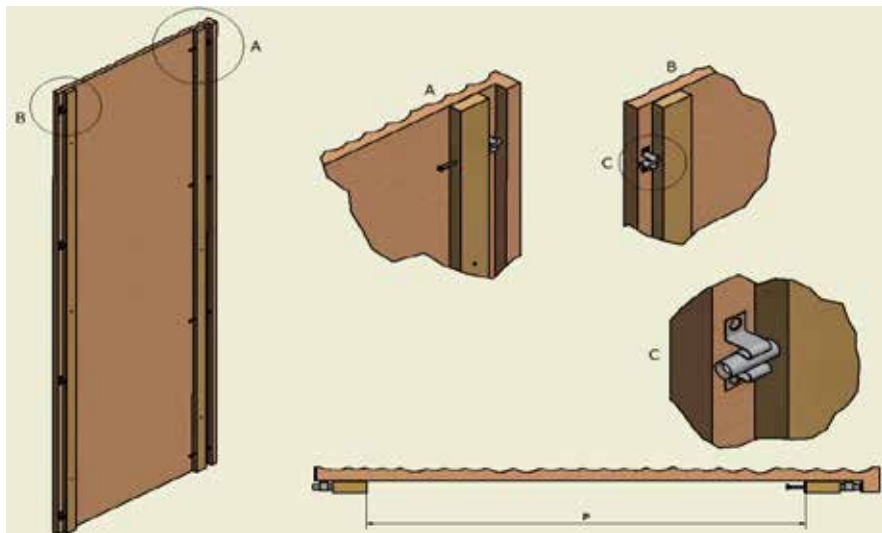

Fig. 1
- **Blockboard rear structure, complete with cylindrical pins for hooking the paneling (figure 1)**
- **Milled MDF paneling, complete with steel clips for fixing to the pins (figure 1)**